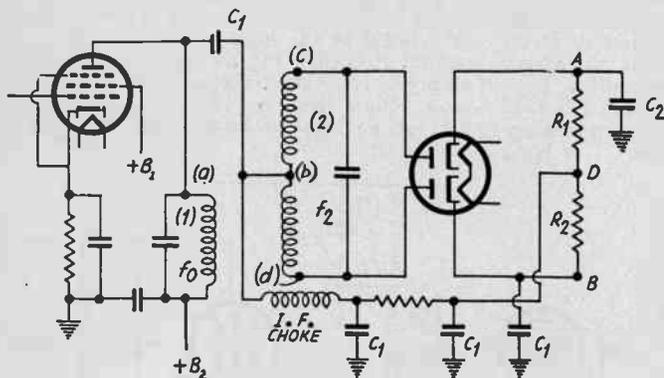

FIG. 3.
The arrangement in a simplified discriminator which has been incorporated in commercial receivers is shown in Fig. 3. The intermediate carrier is delivered by the first tube to the tank circuit (1), which is tuned to f_0 . The coil of this circuit is coupled loosely to another circuit resonant to f_0 . The top point, (a), of the first circuit is connected to the midpoint, (b), of the second circuit, through a condenser C_1 . The second circuit, (2), is connected to the plates of two diode detectors. The voltage at the point
When the frequency of the oscillator in Fig. 4 is to be controlled by the discriminator in Fig. 3, point B is connected to the negative of the fixed bias for the control tube. If no bias is used, or if there is self-bias, this point is grounded. In other cases it may be a point on a common voltage divider.
In every case point A of Fig. 3 is connected to point A on Fig. 4.
It will be observed that the discriminator circuit in Fig. 3 can be used not only for a.f.c. but also for a.v.c. and audio. Point D is always negative with respect to point B. Hence this point corresponds to the negative end of the load resistor in the plain detector, and the grids to be volume-controlled are to be connected to this point. The audio signal voltage can also be taken off this point, or from any point on R_2 between D and B. Indeed, R_2 may be the audio volume control potentiometer. For good audio output the by-pass condenser connected to D should not be too large, say not over 100 mmfd., assuming that R_2 is of the order of half megohm.
The discriminator circuit shown in Fig. 2 can be used for varying the frequency of an oscillator like that in Fig. 4 in exactly the same way as the discriminator in Fig. 3. Its only drawback is that another detector is required for the a.v.c. and the audio. A side circuit discriminator has also been used for varying the frequency electro-mechanically. A balanced relay is put in the output circuit of the dual rectifier in place of the two resistances, and the armature of that relay carries the plate of a small condenser which is in shunt with the coil of the oscillator. When the relay is unbalanced in one direction, the capacity in the circuit is too small but the relay acts to increase it. When the relay is unbalanced in the opposite direction, the capacity in the circuit is too large, but the relay acts to decrease it. The net effect is exactly the same as if the frequency of the oscillator were controlled by means of mutual conductance change as in Fig. 4.